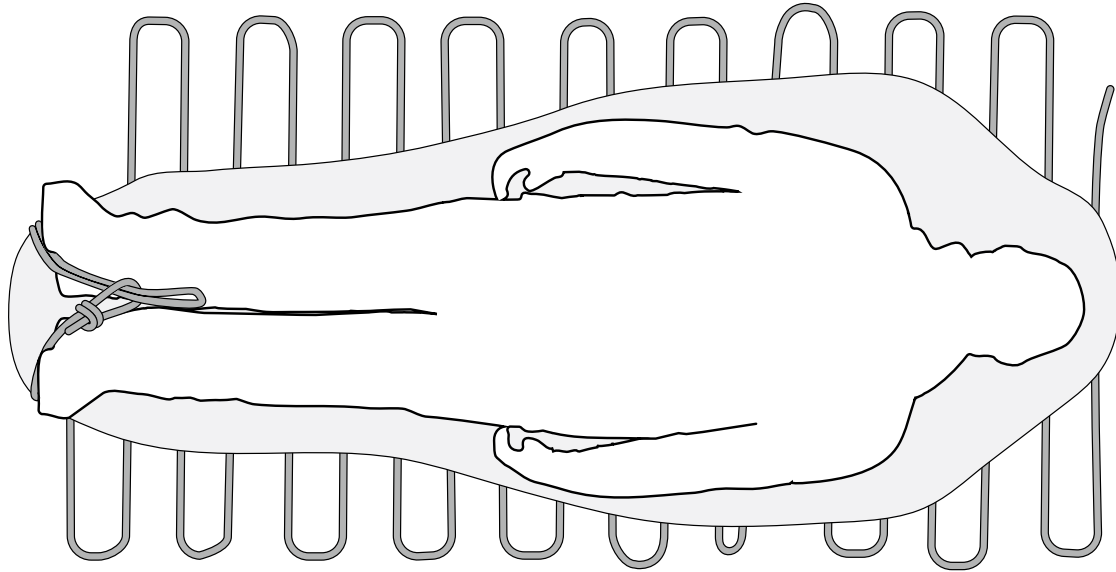

Figure 8-8. Securing the Casualty's Feet.
3. Start at the left or right side of casualty's feet and pull the first bight up around the casualty's ankles and through the figure-eight loop tied into the starting end of the rope, ensuring that the figure-eight loop goes around the soles of the feet, as shown in Figure 8-8.